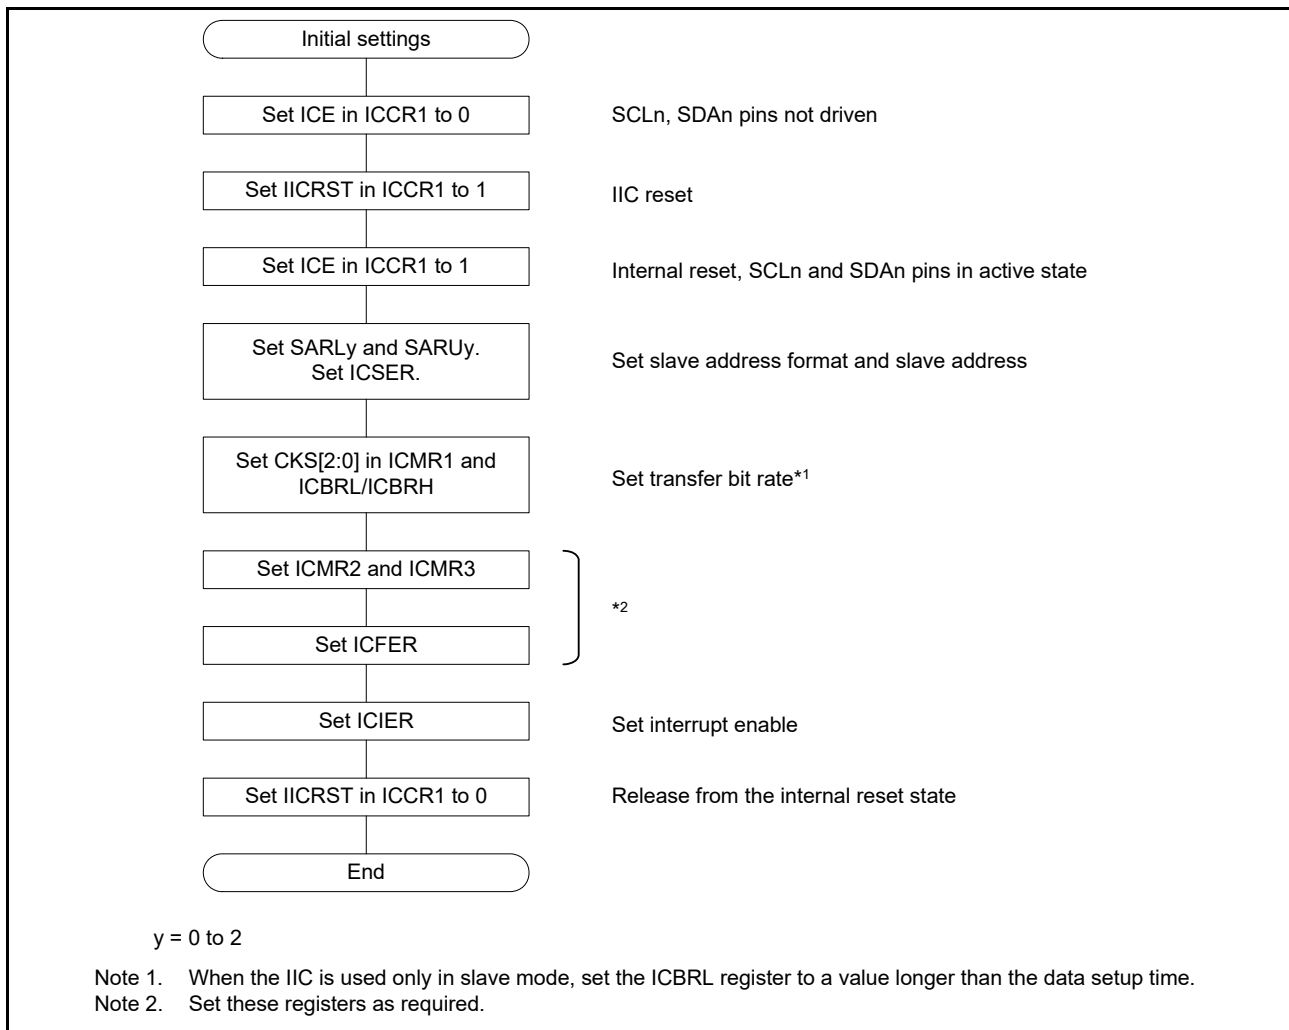

Figure 30.5 Example of IIC initialization flow
Before starting data transmission or reception, initialize the IIC using the procedure shown in Figure 30.5.
4. Set the SARLy, SARUy, ICSEr, ICMR1, ICBRH, and ICBRL registers (y = 0 to 2), and set the other registers as required. For initial settings of the IIC, see Figure 30.5.